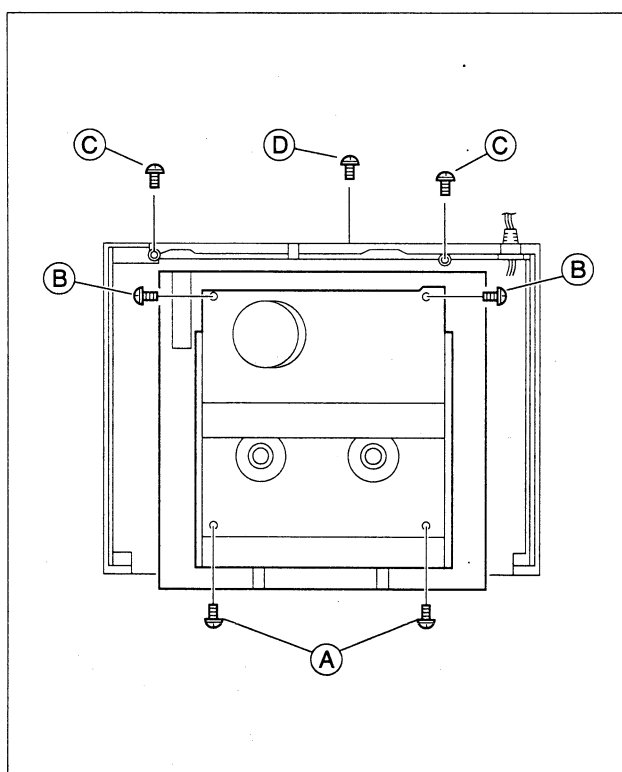

Fig. 1-4-1
- (1) Remove the Top cover, Bracket and Front panel assembly. (See 1.3 DISASSEMBLY/ASSEMBLY METHOD.)
- (2) Lower the cassette holder, and make the preparations required in order to remove the screws from the Main deck assembly. (Refer to the "Procedures for Lowering the Cassette holder assembly" on pages 1-3 of 1.3 DISASSEMBLY/ASSEMBLY METHOD.)
- (3) Take out 2 screws (A) and 2 screws (B) as shown in Fig. 1-4-1.
- (4) Remove the flat wires from CN2 and CN3005 on the Main board assembly.
- (5) Take out 2 screws (C) and take out 1 screw (D) to install the Bottom cover (See Fig. 1-4-1).